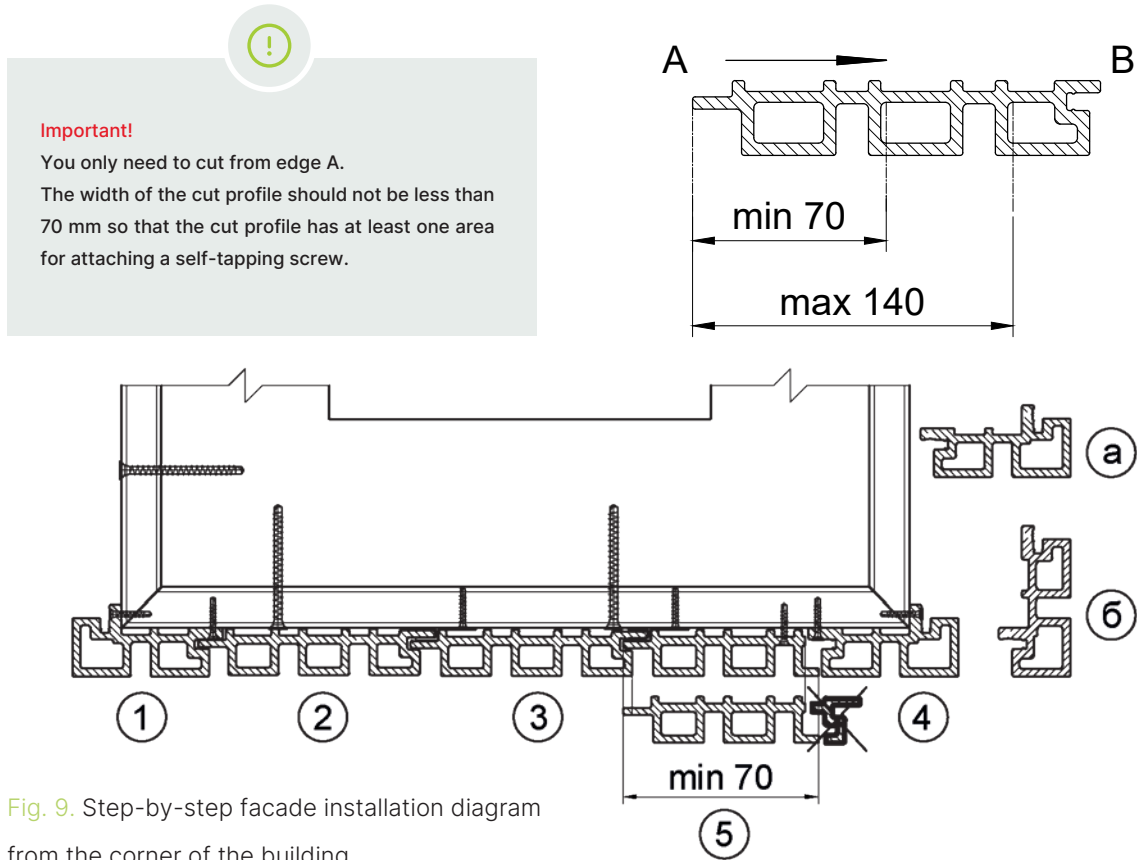

Fig. 9. Step-by-step facade installation diagram from the corner of the building
- ◆ Step 4: Attach the AC 20 profile to the corner of the building using one of the possible methods A or B (see Fig. 9).
When installing the facade profile at step (5), in order to align the entire facade in one plane, fasten the additional clip (c) with the back side to the supporting profile, secure the profile with self-tapping screws (see Fig. 9).